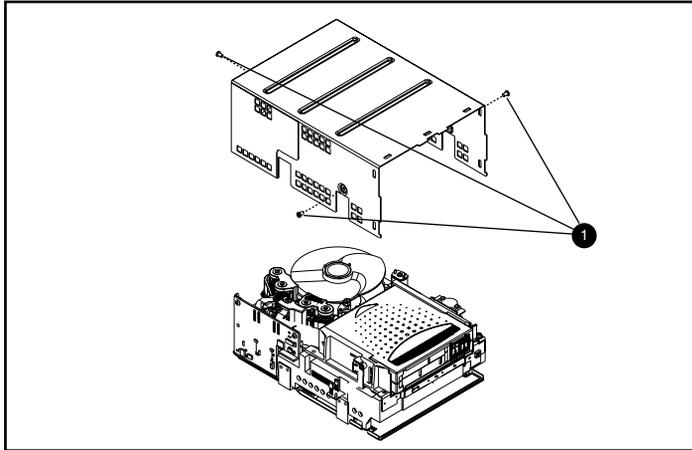

Figure 8: Removing the cover
The SDLT cover is secured to the drive with three screws. Two screws are located on either side of the drive and the third is located at the back of the drive. To remove the cover, remove all the screws ❶ with a Torx T8 screwdriver and lift the cover upward (see Figure 8).